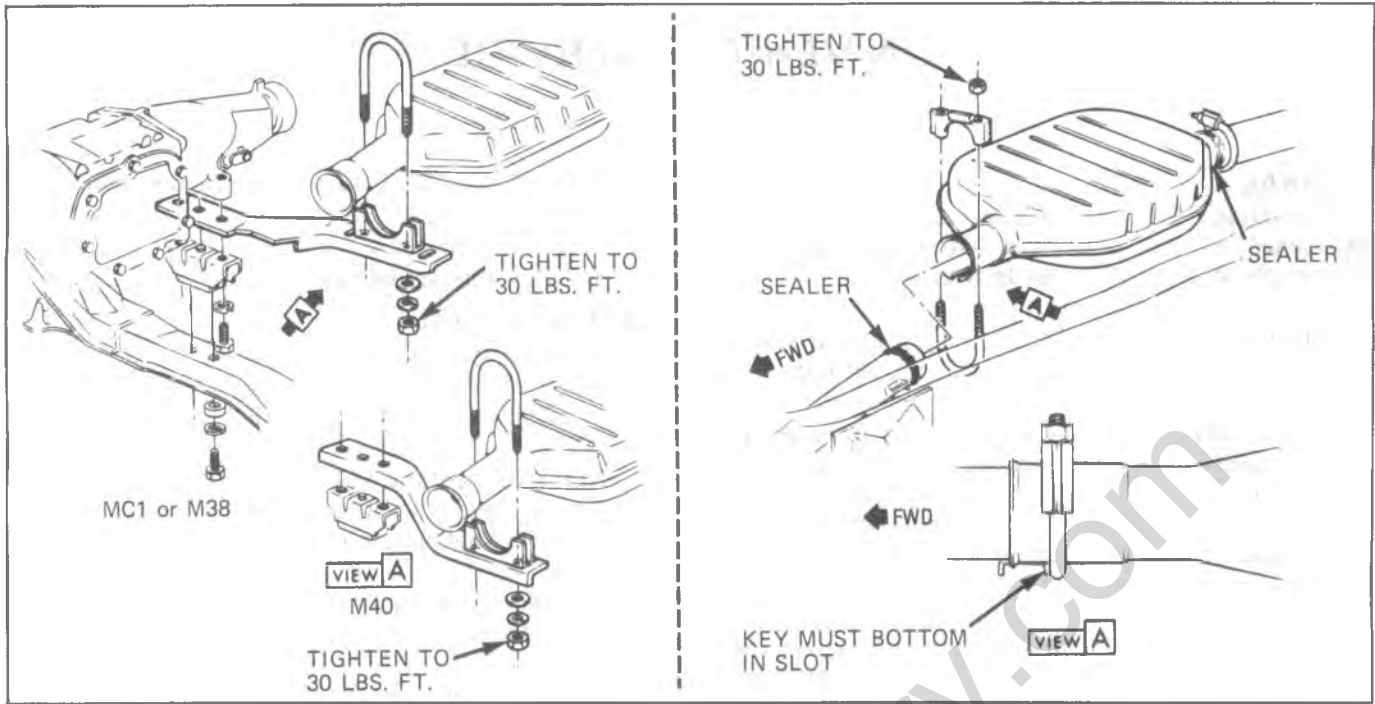

Fig. 6F-1-Catalytic Converter - CK Series
If built with a pressed plug, install service fill plug (Fig. 6F-10), as follows: Install the bolt into the bridge and position the bridge into converter opening. Move bolt and bridge back and forth to dislodge catalyst beads until bridge is positioned (Fig. 6F-11).
9. While holding the fill plug and washer against the bolt head (Fig. 6F-12), thread the bolt 4 or 5 turns into the bridge. Release the fill plug and the aspirator will pull the fill plug into position.